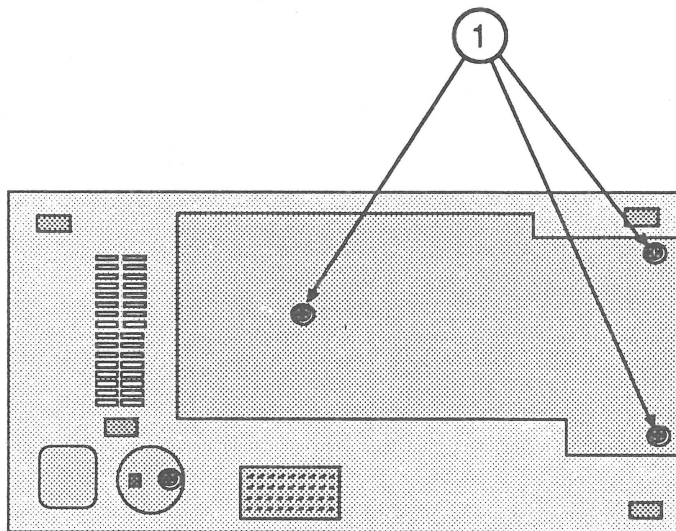

FIGURE 34
1. Stand the scanner on its left side (Figure 34).
2. Loosen the three screws on the bottom panel (Figure 34, #1). (The screws will not come out, but make sure they are loosened all the way.) The panel will come off.